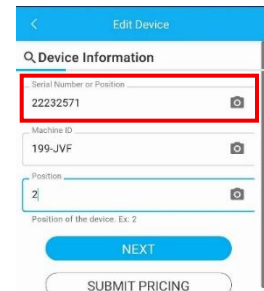

Figure 26
5. The **Device Information** page will populate (**Figure 26**). If you need to make any changes to the **Machine ID** or **Position**, follow these steps: